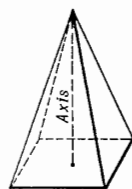

Fig. 69
78. A *Right or Regular Pyramid* is one whose base is a regular polygon and in which a perpendicular let fall from its apex, passes through the center of its base. The perpendicular is called the *axis* of the pyramid. Fig. 69.
83. The *Altitude* of a pyramid or cone either right or scalene, is the length a perpendicular let fall from the apex to the plane of its base. Fig. 69.